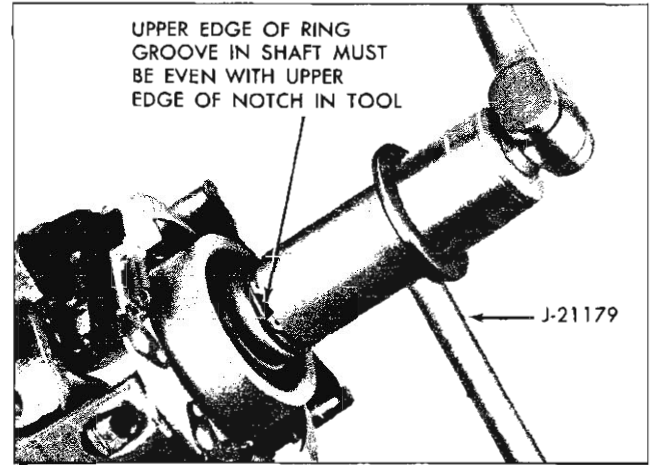

Fig. 38—Preloading Bearing
15. Place Tool J-21179 over the shaft and, using the steering wheel nut, turn down until the notch in the tool is in line with the upper edge of the retainer ring groove in the shaft. Remove the nut and Tool J-21179 and tap the snap ring into the groove (fig. 38).